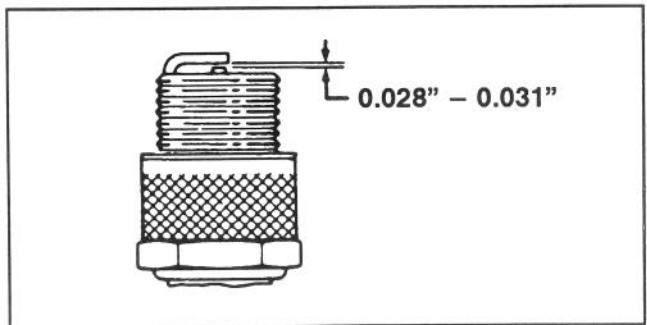

Figure 34
3. Set air gap at 0.028" – 0.031" (Fig. 34). Install correctly gapped spark plug and tighten firmly to 20 ft-lb.